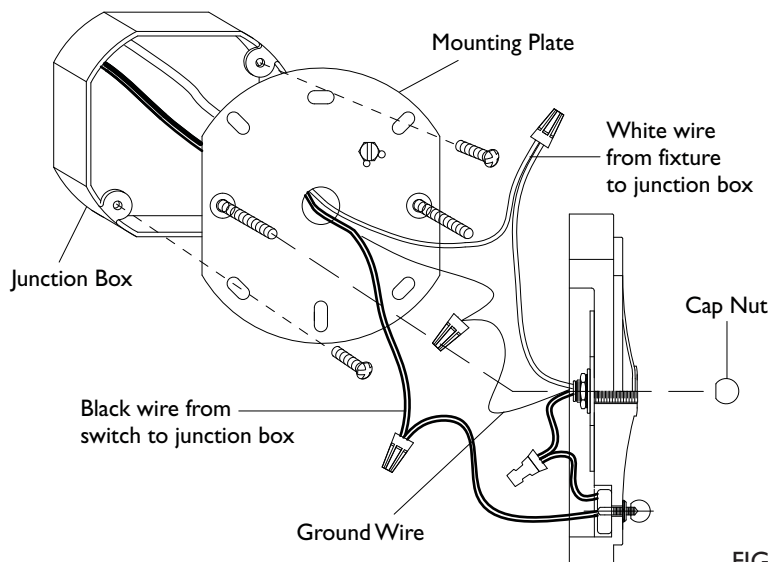

FIG. 3
- 6) To make electrical connections: (FIG. 3) Connect the white wire from the fixture to the white wire of the outlet box. Connect the black wire from the lamp Switch to the black wire of the outlet box.